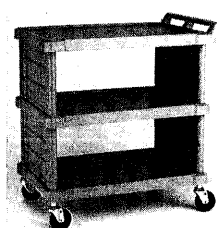

Fig. 13
16. Place the last 4 pair of sleeves on the top groove of each post. Lower the handle shelf onto sleeves and seat as per step #6 (Figs. 13, 14, 15 and 16).